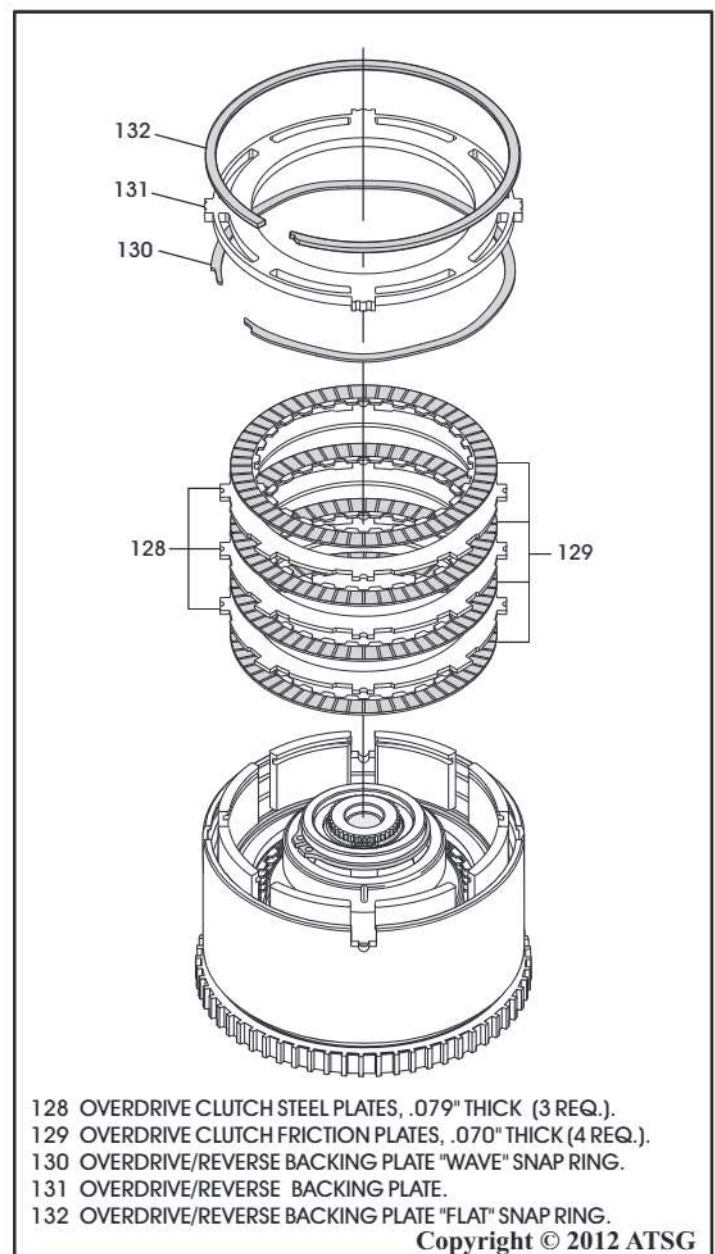

Figure 189
31. Install the overdrive clutch pack beginning with a friction plate and alternating with steel plates until you have installed 4 friction and 3 steel plates, as shown in Figure 189.
32. Install the overdrive/reverse backing plate **wave** snap ring into the wide groove of the overdrive and reverse piston and push snap ring to bottom of the groove, as shown in Figure 189.
33. Install the overdrive/reverse backing plate into the retainer, as shown in Figure 189, with the stepped side facing down.